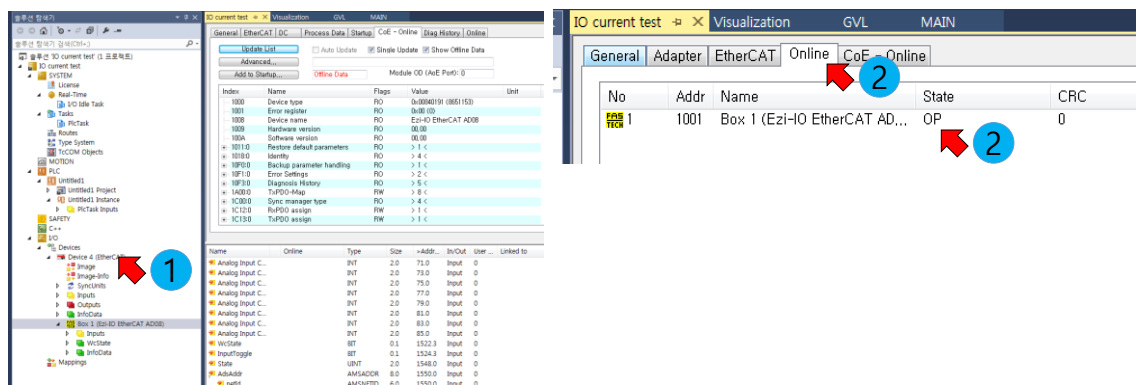

Figure 7-3. Checking EtherCAT Communication State
- Check the EtherCAT network is in 'OP' state as shown in Figure 7-3.